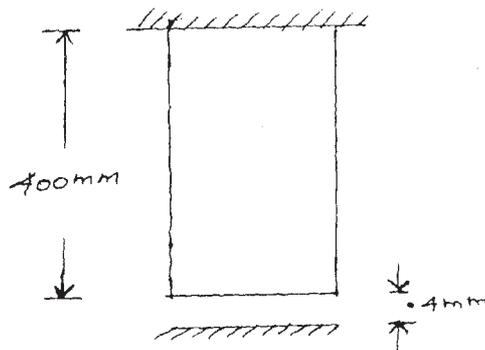

Fig. 1
1. Find the stress induced in the bar shown in Fig. 1 when subjected to a rise in temperature of 70°C. $E = 1 \times 10^5 \text{ N/mm}^2$ and $\alpha = 16.5 \times 10^{-6}/^\circ\text{C}$.